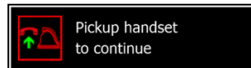

Figure 33: Pickup Handset Popup
1. Lift the master handset off the cradle. If not, the pickup handset popup (Figure 33) will show.